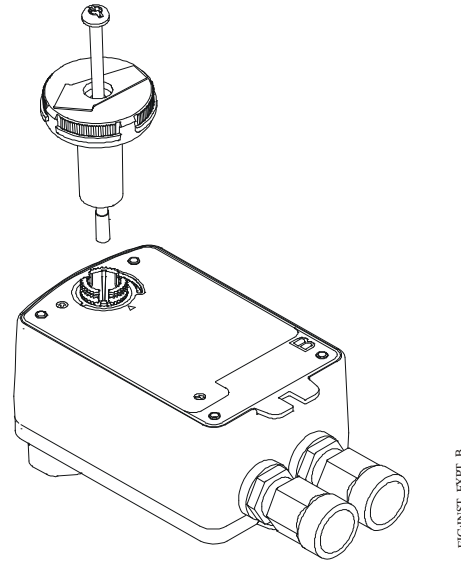

Figure 16: Installing the Fixed Pointer
5. Insert fixed pointer and M4x0.7x83 mm long screw into the Side B actuator hub (Figure 16). Direct the arrow on the pointer to 0%.